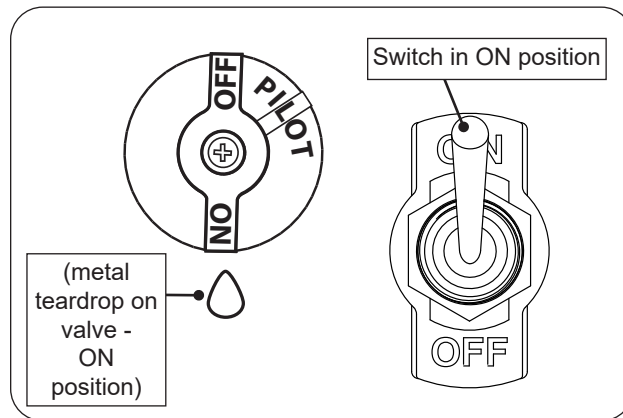

Fig. 30-1 Manual lighting
1. Ensure the pilot is burning. Turn the control knob counterclockwise ↺ to **ON** (see Fig. 30-1).
2. Flip the toggle switch to **ON** to ignite the burner (see Fig. 30-1).